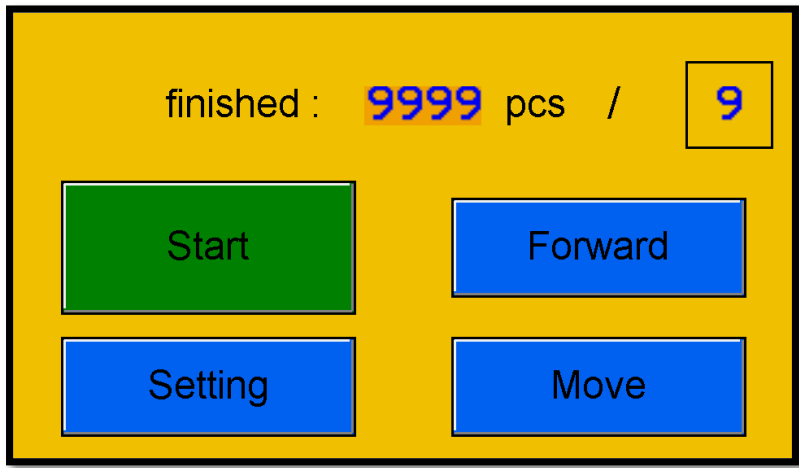

Fig. 20: The Main screen
By pressing the **"Setting"** icon on the main screen, the following menu is displayed (fig. 20).
Adjust the feeding table (1) according to the instructions in Section 7.2. There must be minimum gap between the side guides and the pile of paper. The machine is constructed for pile of paper 50 mm high. Press the table release (15). Paper is pushed into the feeding head (10). Lower the paper brake (7) onto the end of paper. Adjust the distance of the back stop (11) on the delivery table (2) according to the size of the sheet. Press the "Start" icon on the screen (fig. 20). The
The feeding wheels (29) start to feed the individual sheets into the machine. Load another pile of paper on the feeding table only after the machine processes the last paper, which automatically ends the working cycle and the main screen is displayed (fig. 20). The working cycle can be interrupted manually by pressing the **"Stop"** icon. Please note that at this moment another sheet has already been fed into the machine. When the machine is started again, this sheet goes through the machine without being processed. In case of trouble the big red **"STOP"** button (8) on the main panel can be used to stop the machine.